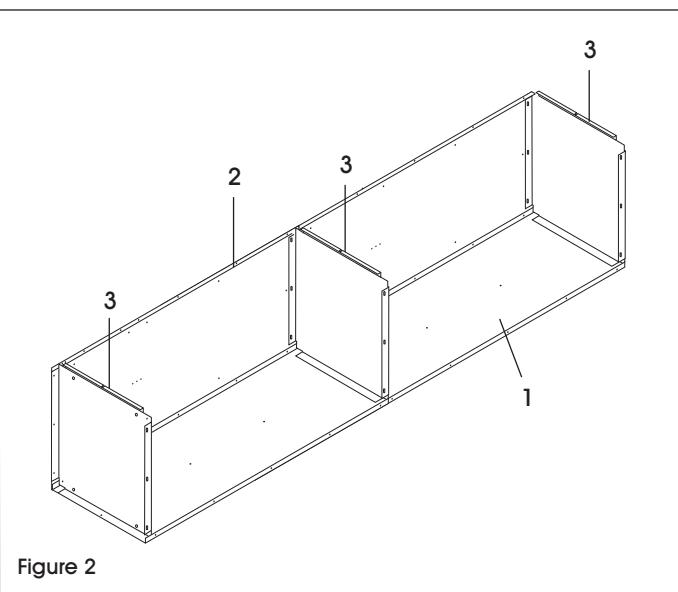

Figure 2
3. Bolt top (3), bottom (3) and middle (3) to back panel (1) and left side panel (2). (See Figure 2)